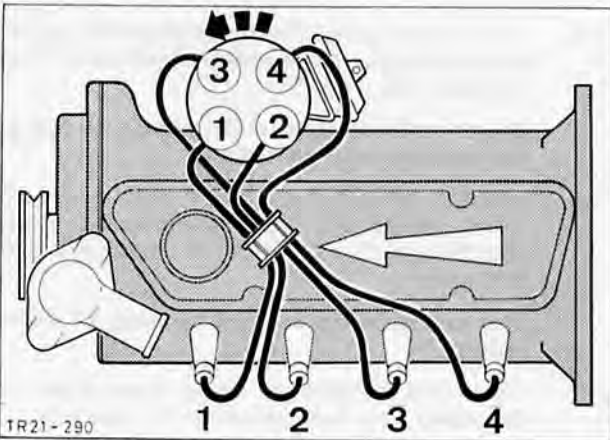

Fig. 169. HT lead arrangement (Firing order)
3. Replace rocker cover and torque bolts to specification. Connect HT leads, Fig. 169, and fit air cleaner.